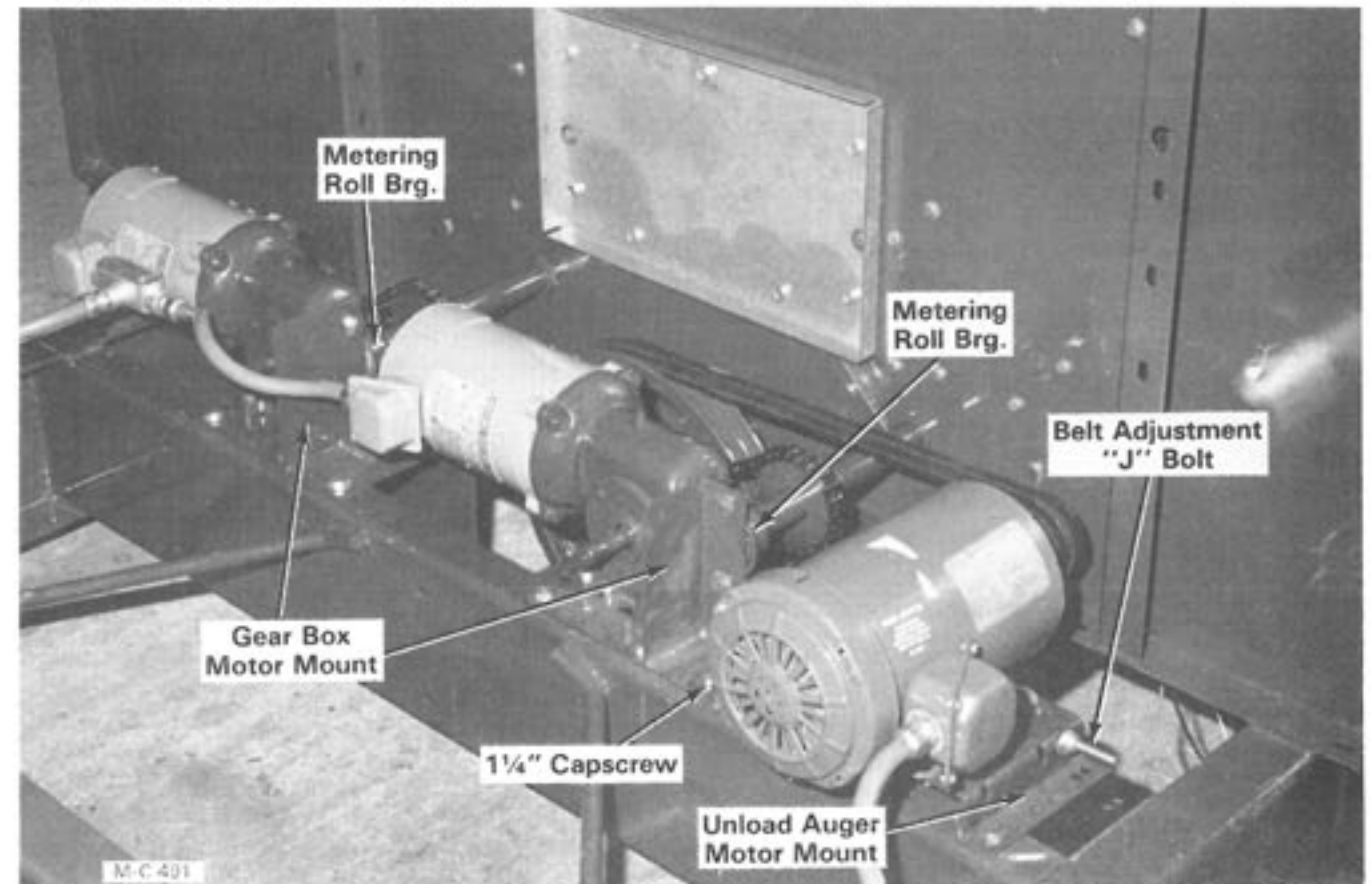

Figure 11
NOTE: The gear boxes will be to the left when installed, see Figure 11.
1. Install both gear box-motor mounts, see Figure 11, page 5. Bolt the right one to the outboard bearing mount channel with five 3/8-16 x 1" capscrews, flatwashers and locknuts. Use four on the left one. Leave the left front hole open. The unload auger motor mount will be bolted to this hole. The flatwashers go under the head of the capscrews.
3. Bolt the unload auger motor mount to the outboard bearing mount channel, see Figure 11, page 5. Use a 3/8-16 x 1/4" capscrew, flatwasher and locknut at the right front corner and 3/8-16 x 1" capscrews in the other two holes.
5. Install the two "J" bolts, see Figure 11, page 5. Hook them over the 1 1/2" capscrews with a flatwasher on each side. Put a flatwasher and 3/8-16 locknut on each "J" bolt.